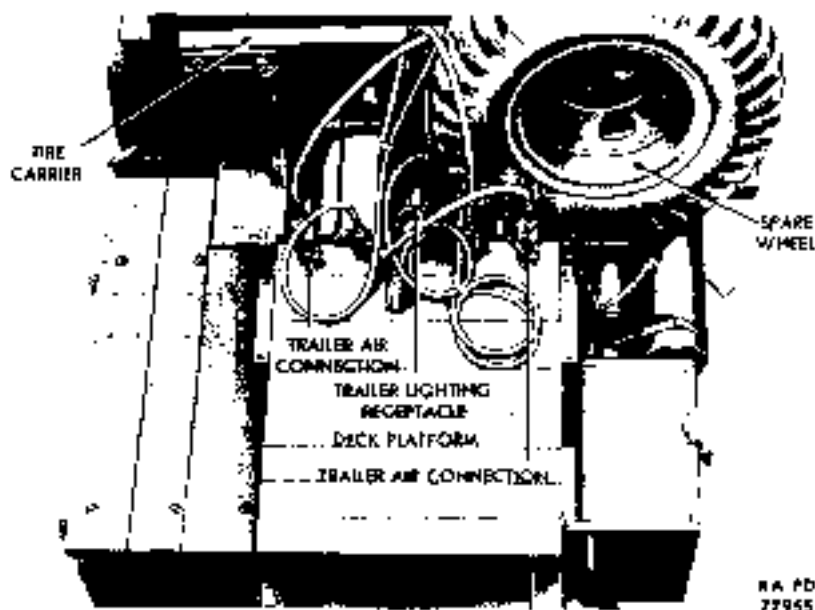

Figure 53 - Trailer Connections and Deck Platform
a. **Remove Spare Wheel (fig. 53).** Unlock padlock. Remove the two nuts, lock washers, and clamp bracket which secure wheel to tire carrier assembly, and remove wheel.
b. **Remove Trailer Lighting Receptacle and Deck Platform Assembly (fig. 53).** Remove the two bolts, nuts, and lock washers which secure trailer lighting cable receptacle bracket to deck platform, and free bracket from deck platform. Detach the two hose couplings, and pull hose free from deck platform. Loosen clamping stud which secures air tubing to semitrailer hose assembly, and pull tube free from assembly. Remove the 12 bolts, nuts, and 24 lock washers which secure frame to deck platform brackets to deck platform. Remove deck platform from vehicle.
l. **Install Deck Platform Assembly and Trailer Lighting Receptacle (fig. 53).** Position deck platform to frame. Secure with the 12 bolts, nuts, and 24 lock washers. Position trailer lighting cable receptacle bracket to deck platform, and secure with the 2 bolts, lock washers, and nuts. Tighten clamping stud which secures air tubing
m. **Install Spare Wheel** (fig. 53). Position wheel to tire carrier. Secure with the two nuts, lock washers, and clamp bracket.